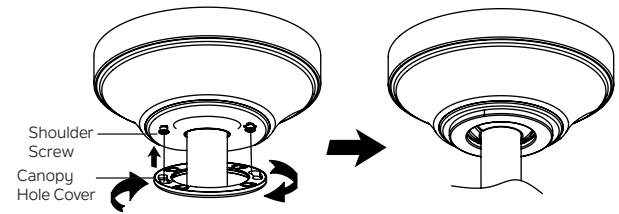

Fig. 17
**Step 3.** Securely attach and tighten the canopy hole cover over the shoulder screws in the mounting bracket utilizing the keyslot twist-lock feature. (Fig. 17)